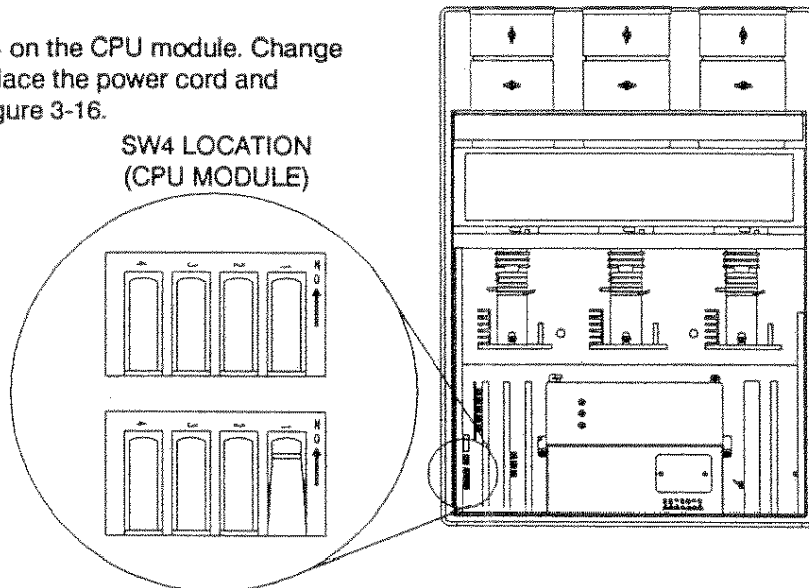

FIGURE 3-16. ADDING THE ANALOG RGB2 MODULE.
- STEP 5. Locate DIP switch SW4 on the CPU module. Change SW4-1 to the "ON" position, replace the power cord and energize the system. Refer to figure 3-16.